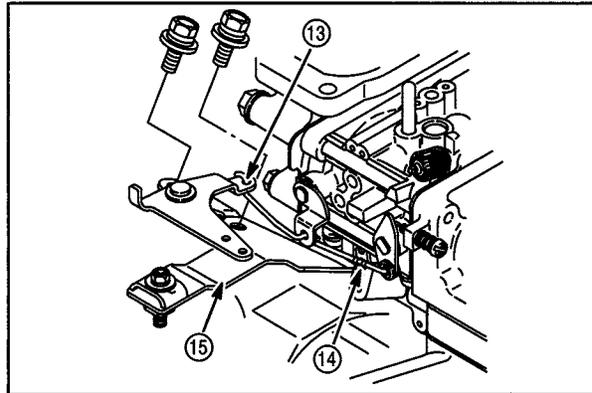

Fig. 35
- Connect governor link (14) to throttle lever and snap retainer over link, **Fig. 35**.
- Assemble choke link (13) to carburetor and choke lever. Install choke bracket (15). Torque screws to **65 in. lbs. (7 Nm)**.